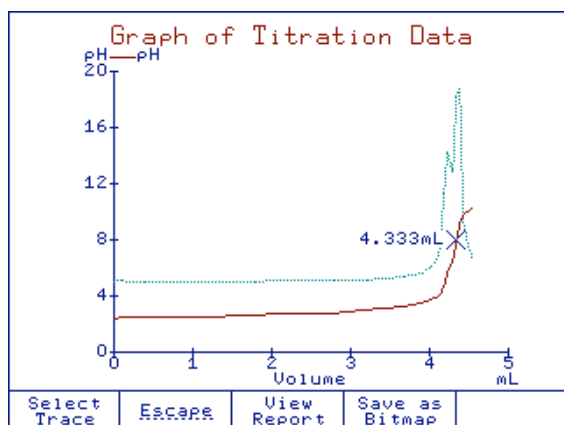

Figure 1. Equivalence endpoint (pH)
- » **Figure 1** displays the pH readings and the selected derivative vs. volume of titrant.